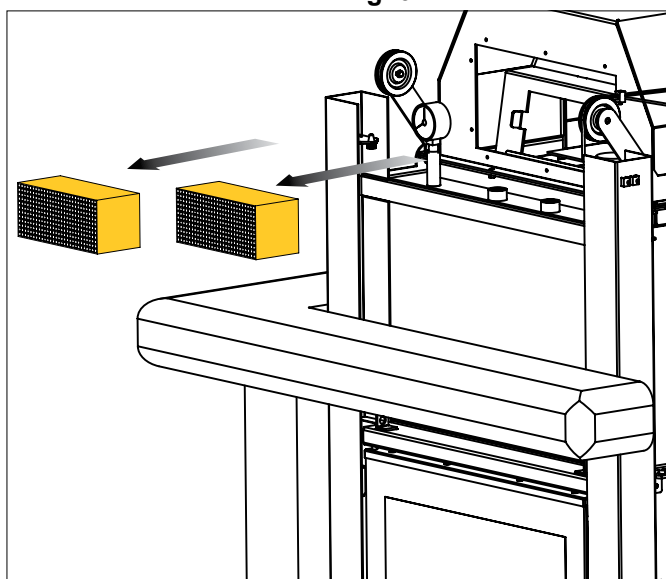

fig. 6.3
- Extract the two catalyser elements and clean them using a vacuum cleaner and a dry brush (fig. 6.3).